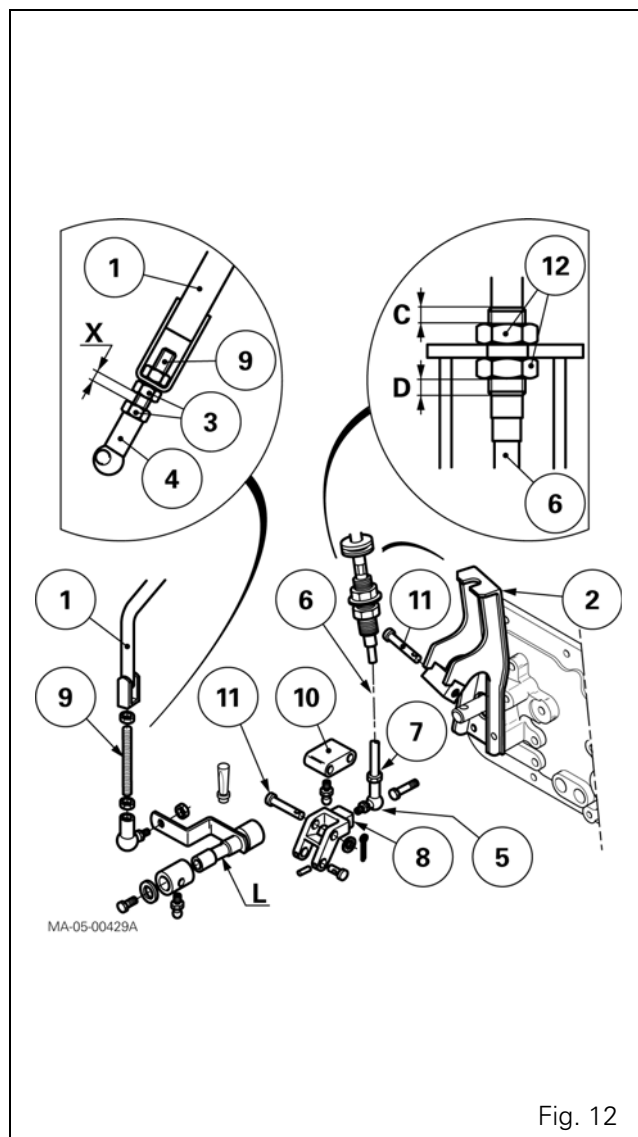
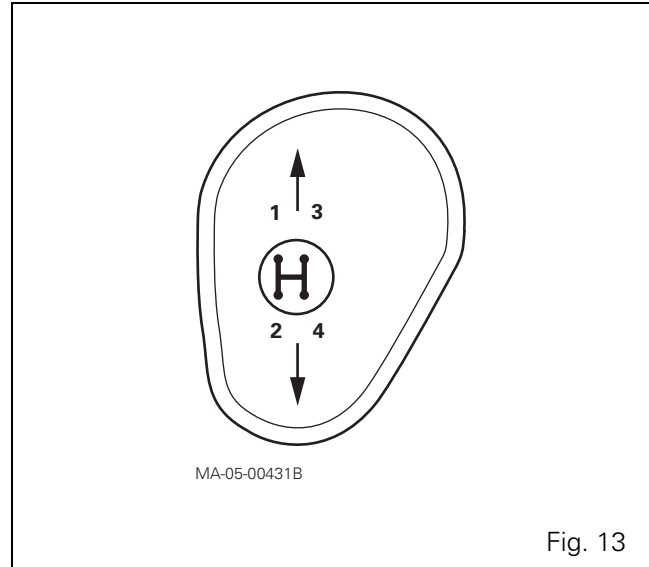
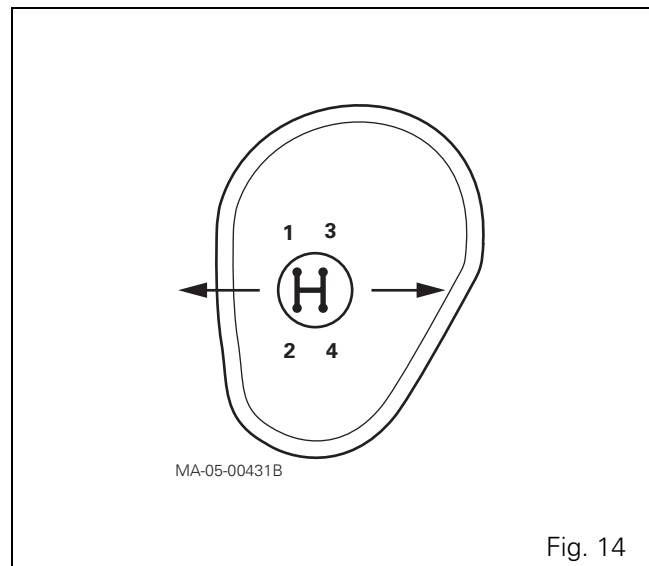

Fig. 12
Fig. 13
Fig. 14
Preparation (Fig. 12)
Assembly (Fig. 12)
71. Tighten and lock the other end of the ball joint (5) onto the cam (8).
72. On the previously fitted support (2) and lever "L", position the cam (8) and its extension block (10). Fit the pins (11), and lock them in place with new pins.
73. Fit the ball joint (4) on the lever L. Fit the washer and tighten the locknut.
Adjusting the rod (1) (Fig. 12)
74. Turn the threaded rod (9) and ball joint (4) to obtain a dimension X of $17 \pm 1 \text{ mm}$ between the two nuts (3) when they are tightened.
Adjusting the cable (6) (Fig. 12)
75. Adjust the sheath end to balance (as far as possible) dimensions "C" and "D". Tighten the nuts (12) without altering the adjustment.
76. Engage each gear ratio. During this operation, check that the lever is **never closer than 5 mm** from the edge of the console (Fig. 13 - Fig. 14).
The lever is positioned incorrectly. Readjust the rod (1) (Fig. 12) on the selector cover plate side in accordance with the following instructions:
- If the problem concerns the 1st or 3rd gear (Fig. 13), reduce dimension X (Fig. 12).
- If the problem concerns the 2nd or 4th gear (Fig. 13), increase dimension X (Fig. 12).
- If the problem concerns lateral movement of the lever between the 1-2 and 3-4 gear paths (Neutral position) (Fig. 14), adjust the cable sheath end (6) (dimensions C and D) (Fig. 12). Tighten the nuts (12).